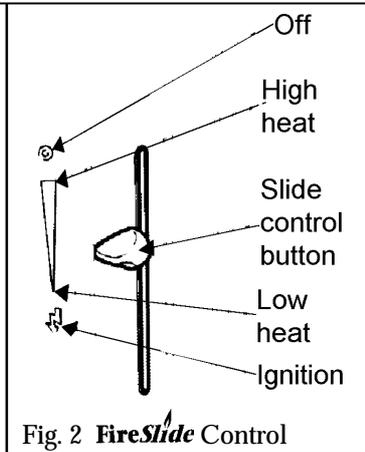

Fig. 2 FireSlide Control
The FireSlide control is shown in figure 2.
3. If low heat is required, release the button. The button will automatically spring up to the low heat position shown in figure 2 (See note i below).
4. For a higher heat level slide the button upwards. The burner flames and heat output will gradually increase until the button reaches the high heat position shown in figure 2. When the button reaches the high heat position you will feel a check to its